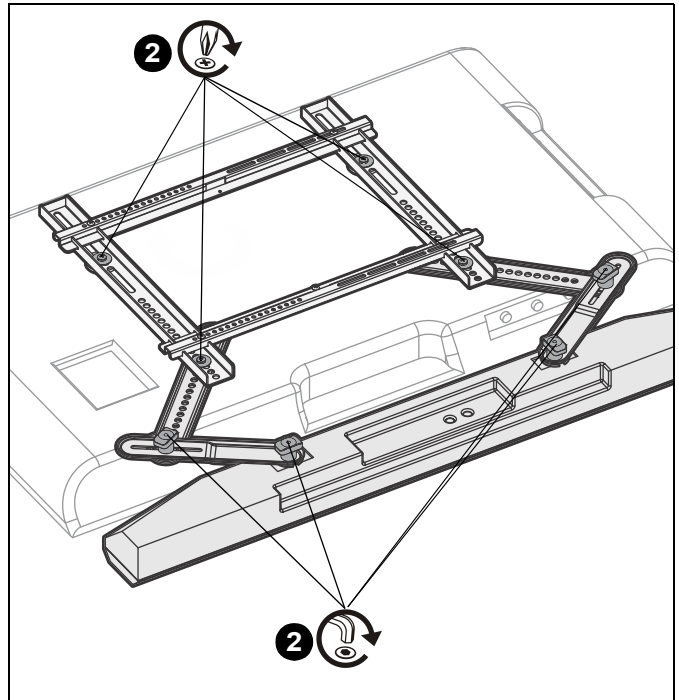

Figure 12
2. After the soundbar is in the desired position, tighten all screw and knob connections. (See Figure 12)